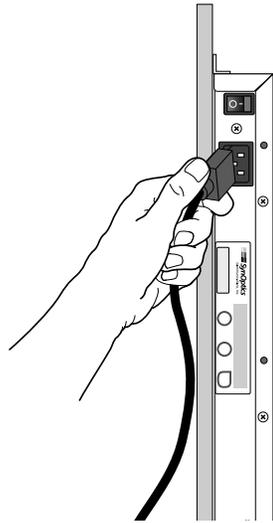

Figure 2-12. Connecting Power Cord
- 4. Connect the power cord, first to the power entry receptacle and then to the wall outlet (see Figure 2-12).**